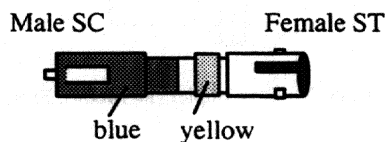

Figure 6-9 Single-Mode ST to SC Adaptor (Blue Connector, Yellow Band labeled “SINGLE MODE”), Female ST to Male SC.
4. *Single-Mode Fiber ST to SC Adaptor.* The single-mode ST to SC adaptor (Figure 6-9) has a blue male SC connector on one end, a female ST connector on the other end, and a yellow band labeled “SINGLE MODE” in the center. (Referred to as “V” in cable diagrams beginning with Figure 6-21.)